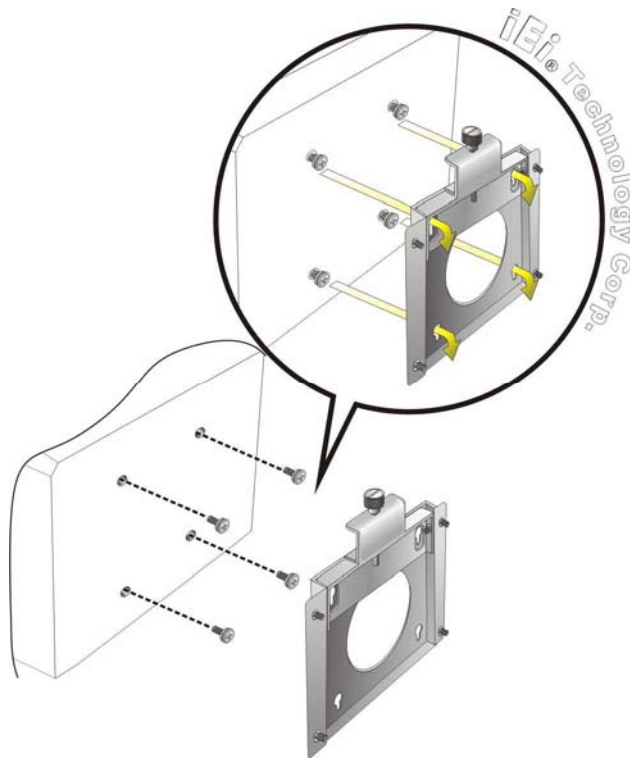

Figure 3-15: Chassis Support Screws
- Step 6:** Insert the four mounting screws provided in the package into the four screw holes on the bottom panel of the ECN-381B and tighten until the screw shank is secured against the bottom panel (Figure 3-15).
- Step 8:** Carefully insert the screws through the holes and gently pull the system downwards until the system rests securely in the slotted holes (Figure 3-15). Ensure that all four of the mounting screws fit snugly into their respective slotted holes.